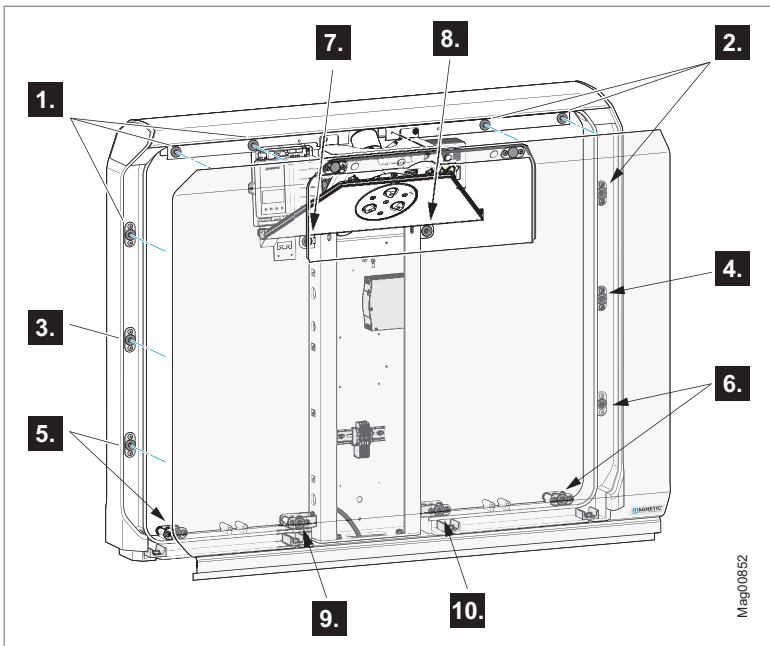

Fig. 31: Disassembly of the front panel
- › Alternately open side closures. ↗ Fig. 31, 1. to 6.
- › Open the top closures. ↗ Fig. 31, 7. to 8.
- › Open the lower closures. ↗ Fig. 31, 9. to 10.